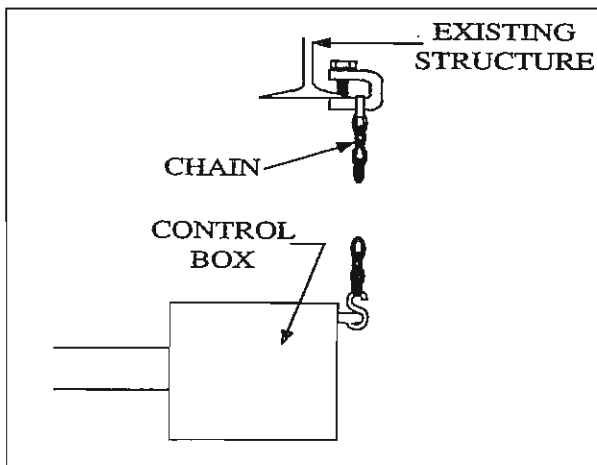

Figure 1-6
- Use of #1 double-loop chain is recommended for heater hanging (Accessory No. THCS) (see Figure 1-6). Close all "S" hooks to ensure maximum load carrying capacity. Accessory No. "BK" allows for preset mounting angle of 15°, 30°, or 45°.